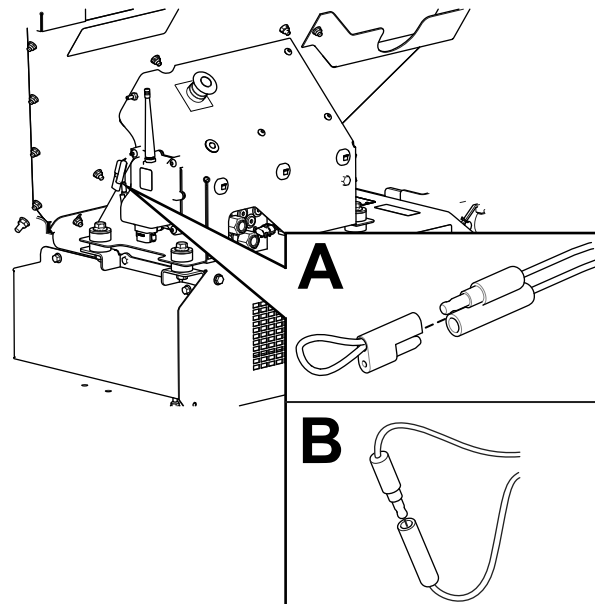

Figure 62
2. Pull the tethered cap off the 2 diagnostic shunt connectors (Figure 62, A).
3. Connect the diagnostic shunt connectors together (Figure 62, B).
2. Disconnect the diagnostic shunt connectors (Figure 62, B).
3. Push the tethered cap onto the 2 diagnostic shunt connectors (Figure 62, A).